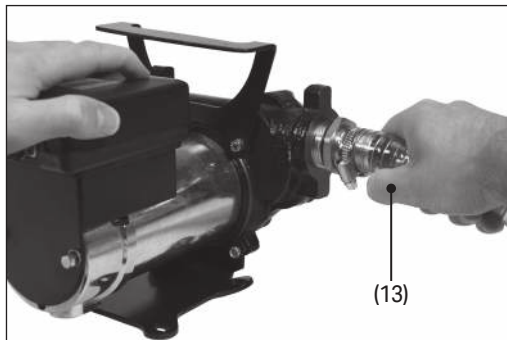

Fig. 2
b. Attach one end of the inlet hose to the pump inlet (13), marked with **IN** around the opening on the pump (Fig. 2).